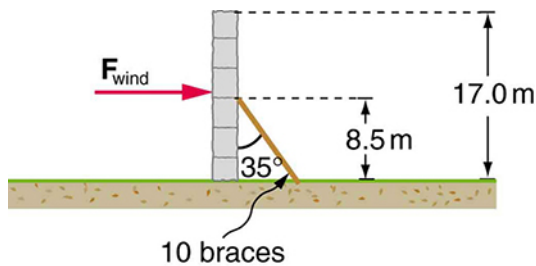

FIGURE 9.30
10. A 17.0-m-high and 11.0-m-long wall under construction and its bracing are shown in Figure 9.30. The wall is in stable equilibrium without the bracing but can pivot at its base. Calculate the force exerted by each of the 10 braces if a strong wind exerts a horizontal force of 650 N on each square meter of the wall. Assume that the net force from the wind acts at a height halfway up the wall and that all braces exert equal forces parallel to their lengths. Neglect the thickness of the wall.